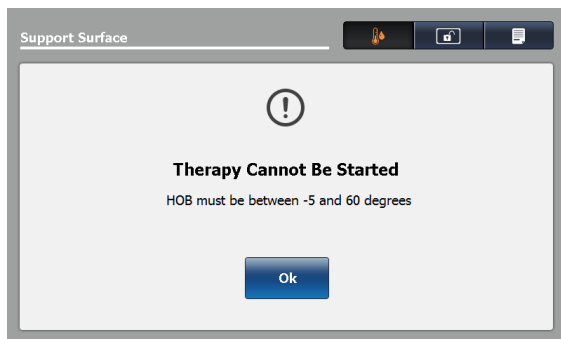
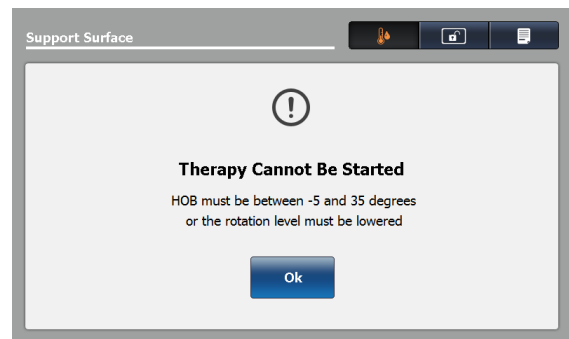

Figure 54: Notification HOB angle setting for any rotation
Figure 55: Notification HOB angle setting for full rotation
**Note:** If the HOB is not within the specified range, a notification appears (Figure 54 on page 67 and Figure 55 on page 67). Tap **OK** to return to the previous screen.